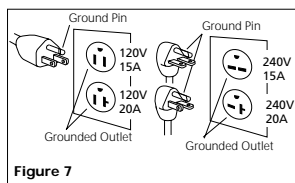

Figure 7
- This product must be grounded. In the event of an electric short circuit, grounding reduces the risk of electrical shock by providing an escape wire for the electric current. Unit is equipped with a cord that has a grounding prong. It will fit one of the common outlet types shown in Figure 7. If plug will not fit in the desired outlet, have the plug or the outlet replaced by a qualified electrician.
- If the plug on the electrical cord of the unit is unfamiliar to you or will not fit your particular receptacle, Figure 7 will help you understand why by illustrating the different plugs and the voltages they are to be used with.
Dual voltage motors may be connected for either 120 volts or 240 volts. By comparing the plug on the cord with the receptacles shown in Figure 7, you can determine for which voltage your compressor is factory wired. Also check motor decal to change from low voltage to high voltage.